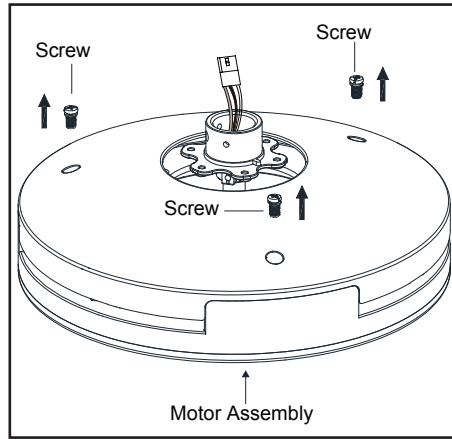

Figure 5
1. Remove the three screws from the top of fan motor assembly , then take off the top housing (Figure 5)